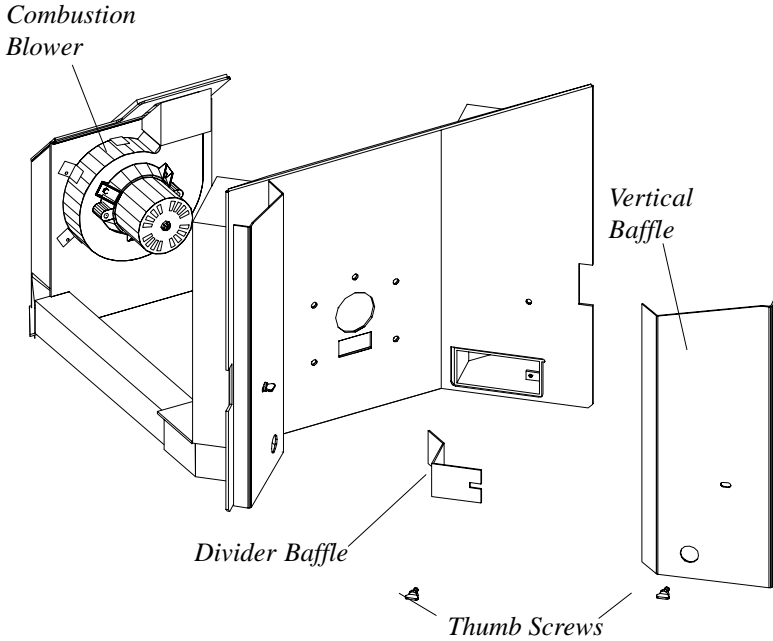

Fig. 18
- * Remove vertical baffles from firebox by first removing the thumb screws. Next rotate the baffles around to the front and remove through the door opening, fig. 16. This exposes the divider baffles which can be removed by first removing the thumb screws, fig. 18.
Note: Fig. 18 & 19 show heat exchanger and rear firebox only. This is done to better illustrate cleaning.